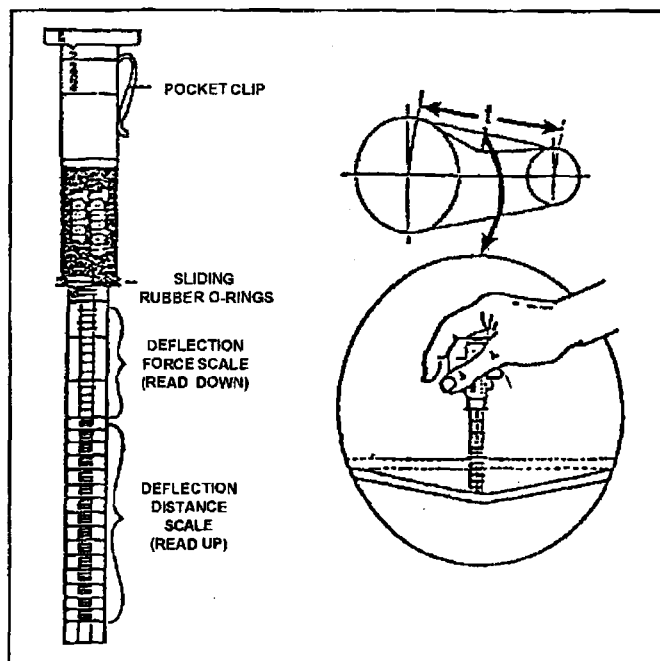

Fig. 5-2 Belt Tension Gauge
Step 4) At the center of the span, perpendicular to the belt, apply pressure to the outer surface of the belt with a belt tension gauge (refer to **Fig. 5-2, Belt Tension Gauge**). Force the belt to the predetermined deflection (refer to **Step 2** above). Record the reading on the belt tension gauge and compare to the chart following **Fig 5-1**. The deflection force reading should be within the minimum and maximum values shown. Adjust belt(s) accordingly. New belts should be initially tensioned to the maximum value plus 33% (multiply by 1.33).